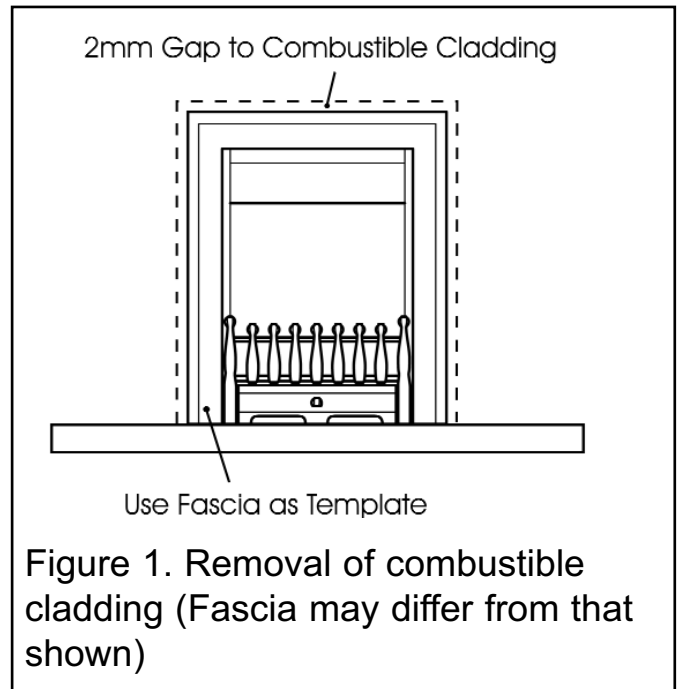

Figure 1. Removal of combustible cladding (Fascia may differ from that shown)
3.7.4 If the appliance is to be fitted against a wall with combustible cladding, the cladding must be removed from the area covered by the fascia. The cladding must also not touch the fascia (See figure 1). We suggest that the actual fascia is used as a template to mark the area for combustible cladding removal and that this area is increased by at least 2mm all round.